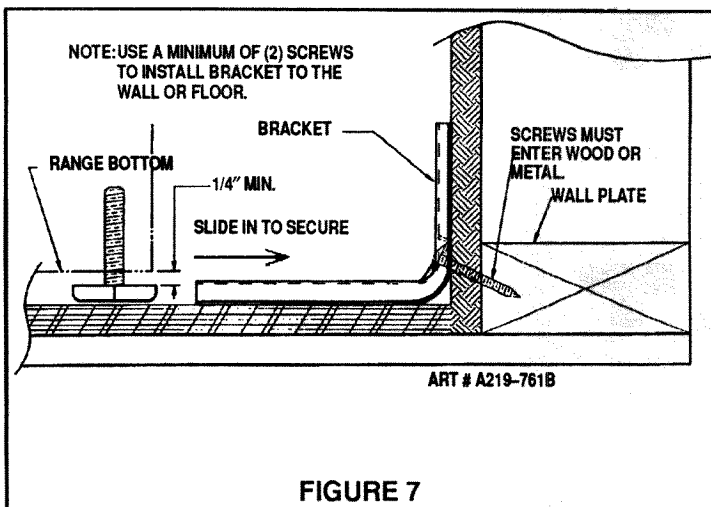

FIGURE 7
- Wall: Locate the center of the two holes identified in figures 3 through 6, as applicable, as "holes for wall." Drill an angled 1/8" pilot hole in the center of each hole as shown in figure 7 or 8 (a nail or awl may be used if a drill is not available.) Secure the ANTI-TIP bracket to the wall with the two screws provided as shown in figure 7 or 8. Proceed to STEP 3.
- Align the range to its designated location and slide it back into position. Make sure that the leveling foot is fully inserted into and secured by the ANTI-TIP bracket. Note: A minimum clearance of 1/4" is required between the range and the leveling foot that will engage the ANTI-TIP bracket, see figure 7 or 8.